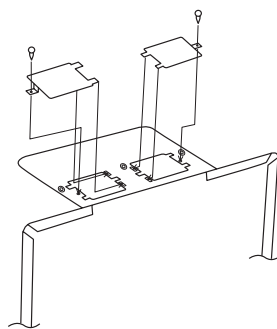

Fig. 1-2-5
- (6) Slide two tabs of ventilation exhaust covers ⑦ into two small square openings of blower cover plate so that two large openings are covered. Secure each with one screw ⑧. (Fig. 1-2-5)
- (8) Slide two tabs of ventilation exhaust covers ⑦ into two small square openings of blower cover plate so that two large openings are covered. Secure each with one screw ⑧. (Fig. 1-2-5)